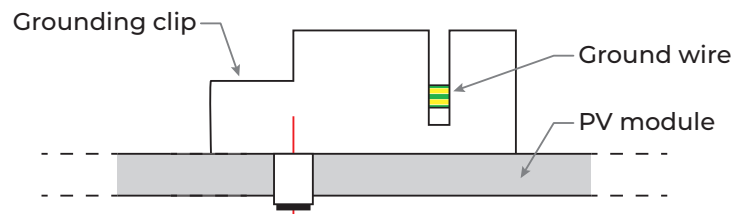

Figure 2
- As shown in the *Figure 2*, the grounding clip assembly consists of a slider, base, and self-captivating thread-cutting screw or 8-32 screw and hex nut. The grounding clip accepts solid uninsulated copper wire sizes 10 or 12 AWG.